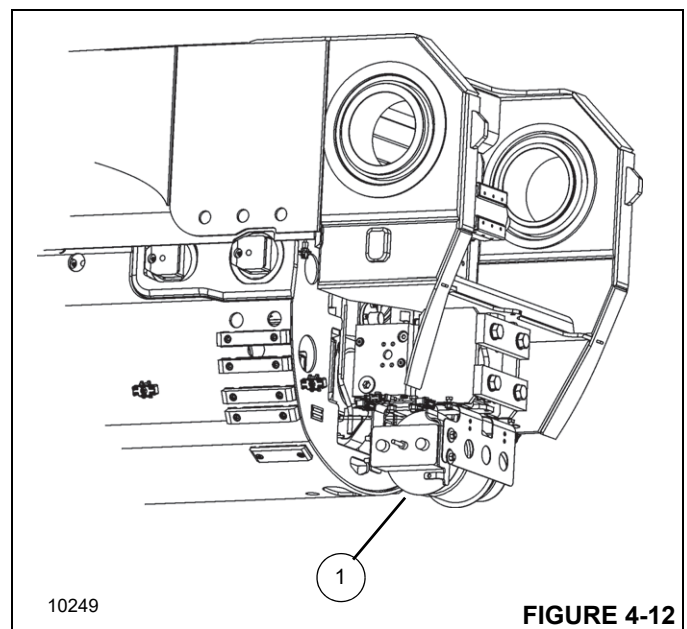

FIGURE 4-12
- The second cable drum (1, Figure 4-12) is located in the main boom underneath the telescoping cylinder.